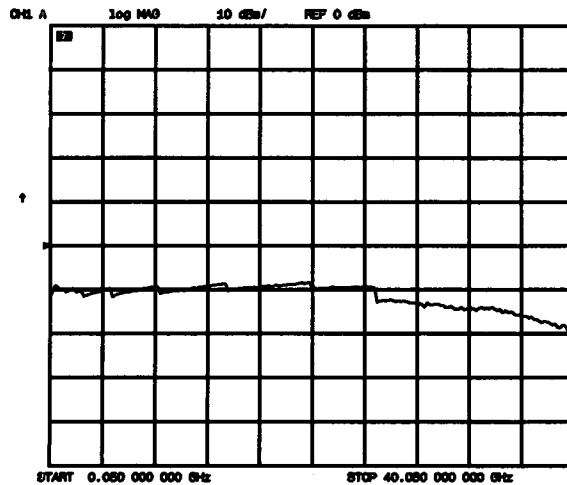

Figure 11-2. Directional Coupler Check CRT Trace
To quickly check the directional coupler by elimination, set output power to -15 dBm by pressing **MENU** **POWER** **RANGE 2 -25 to -15**. Connect the RF flexible cable from the tool kit from the output of the M/D/S directly to the J2 RF INPUT of the suspect signal path sampler. Press **SYSTEM** **SERVICE MENU** **INPUT PORTS** **A** or **B** and compare the trace to Figure 11-2.
- Trace similar to Figure 11-2: the sampler is good, therefore the coupler is lossy. Replace the coupler. Minor power variations are probably due to the flexible cable and are of no concern.